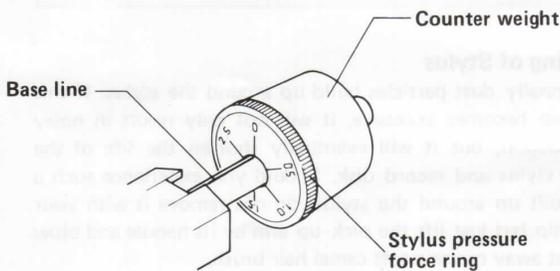

Fig. 9
- c. While holding the counter weight, set the stylus pressure force ring to the zero position relative to the base line (Fig. 9).